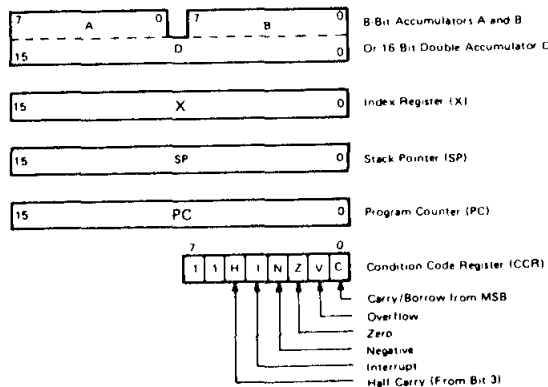

Figure 23 MCU Programming Model
- MCU programming model (See Fig. 23)
The programming model for the HD6301V1 is shown in Figure 23. The double accumulator is physically the same as the accumulator A concatenated with the accumulator B, so that the contents of A and B is changed with executing operation of an accumulator D.